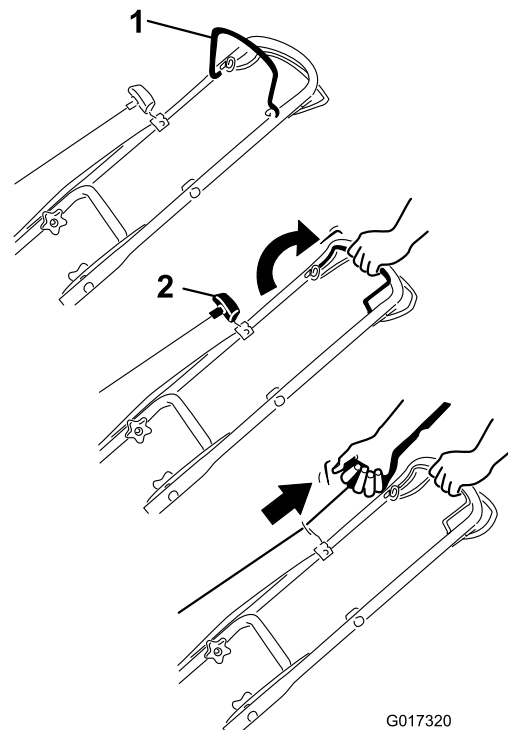

Figure 10
1. Hold the blade-control bar against the handle (Figure 10).
2. Pull the recoil-start handle lightly until you feel resistance, then pull it sharply. Allow the rope to return to the handle slowly (Figure 10).